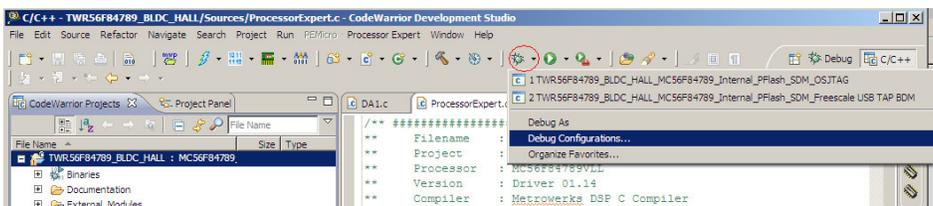
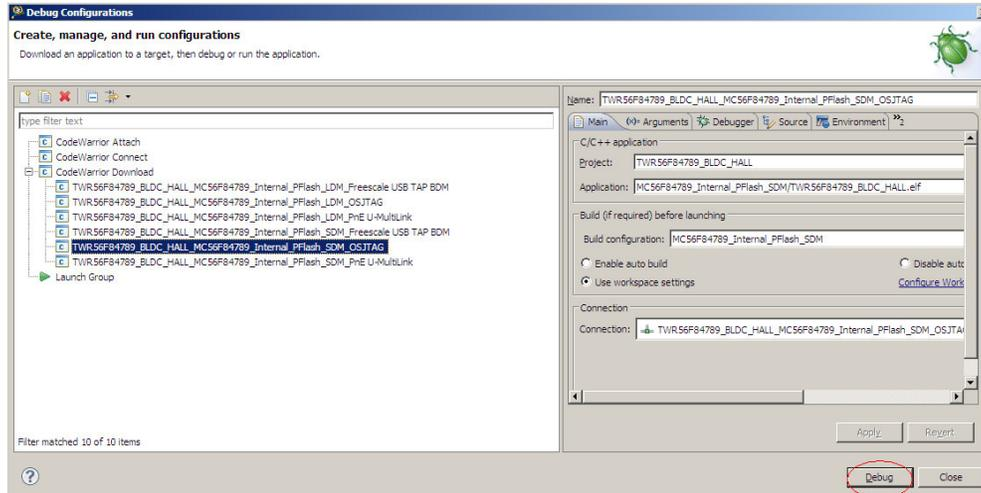
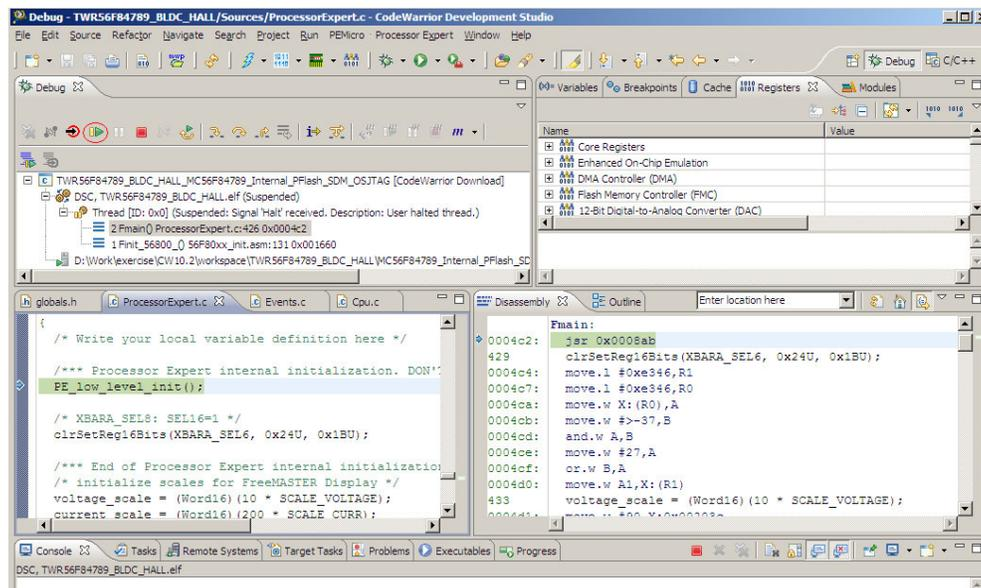

Fig.2 CodeWarrior Project for debug configurations
Fig.3 Debug configurations interface
Fig.4 CodeWarrior Project for debug mode
- 6, When project is built, click the down arrow beside of bug icon (red circle in Fig.2) to pop the pull-down menu of debug, then select “Debug Configurations...” command. In debug configurations interface, select “TWR56F84789_BLDC_HALL_MC56F84789_Internal_PFlash_SDM_OSJTAG” option under CodeWarrior Download item, then click “Debug” button (red circle in Fig.3) to download project goal file, then enter debug mode after a few seconds, and stop at the main function entry point. Then either click on a green “Resume” arrow (red circle in Fig.4) once more to start running the application code or use step-by-step debug buttons to trace the application code (shown in Fig.4). Here suggest running the code for following FreeMaster connection.